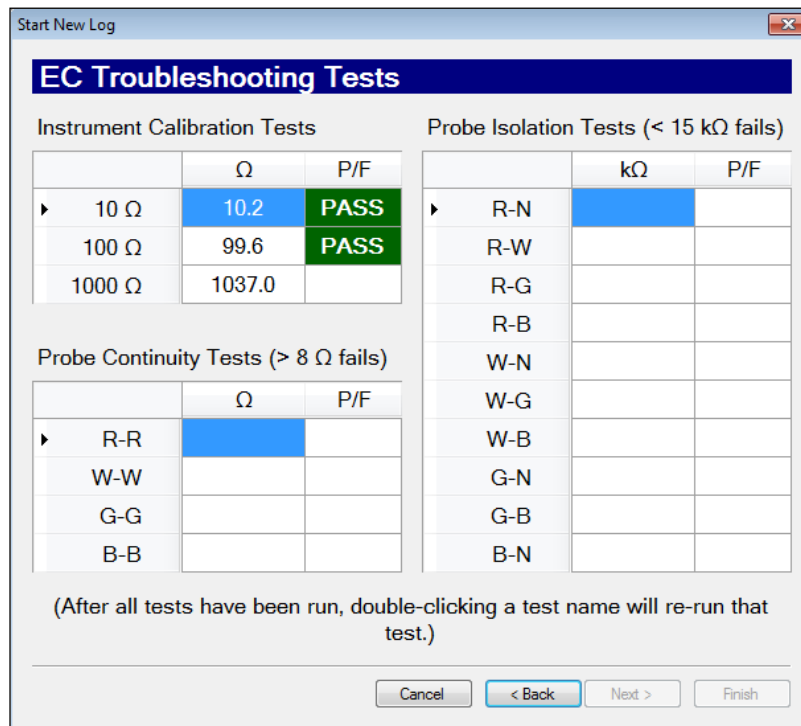

Figure 5.5: EC Troubleshooting Test Screen
7. If the tests continue to fail, select “Next” and the software will conduct the “EC Troubleshooting Tests.” The Instrument Calibration Tests (Fig. 5.5) checks of the calibration within the FI6000. If these are far out of range it will influence the EC Test load values and will need to return to Geoprobe® for repair. The “Probe Continuity and Isolation Tests” confirm each of the wires is a complete circuit and is fully isolated from one another. If a probe continuity test fails just outside the target range of <8ohms this is typically a contact issue with the test jig and the dipoles. If the continuity is in the thousands of ohms this is a break in the EC wire circuit – either in the probe, the trunkline or the connection between them.